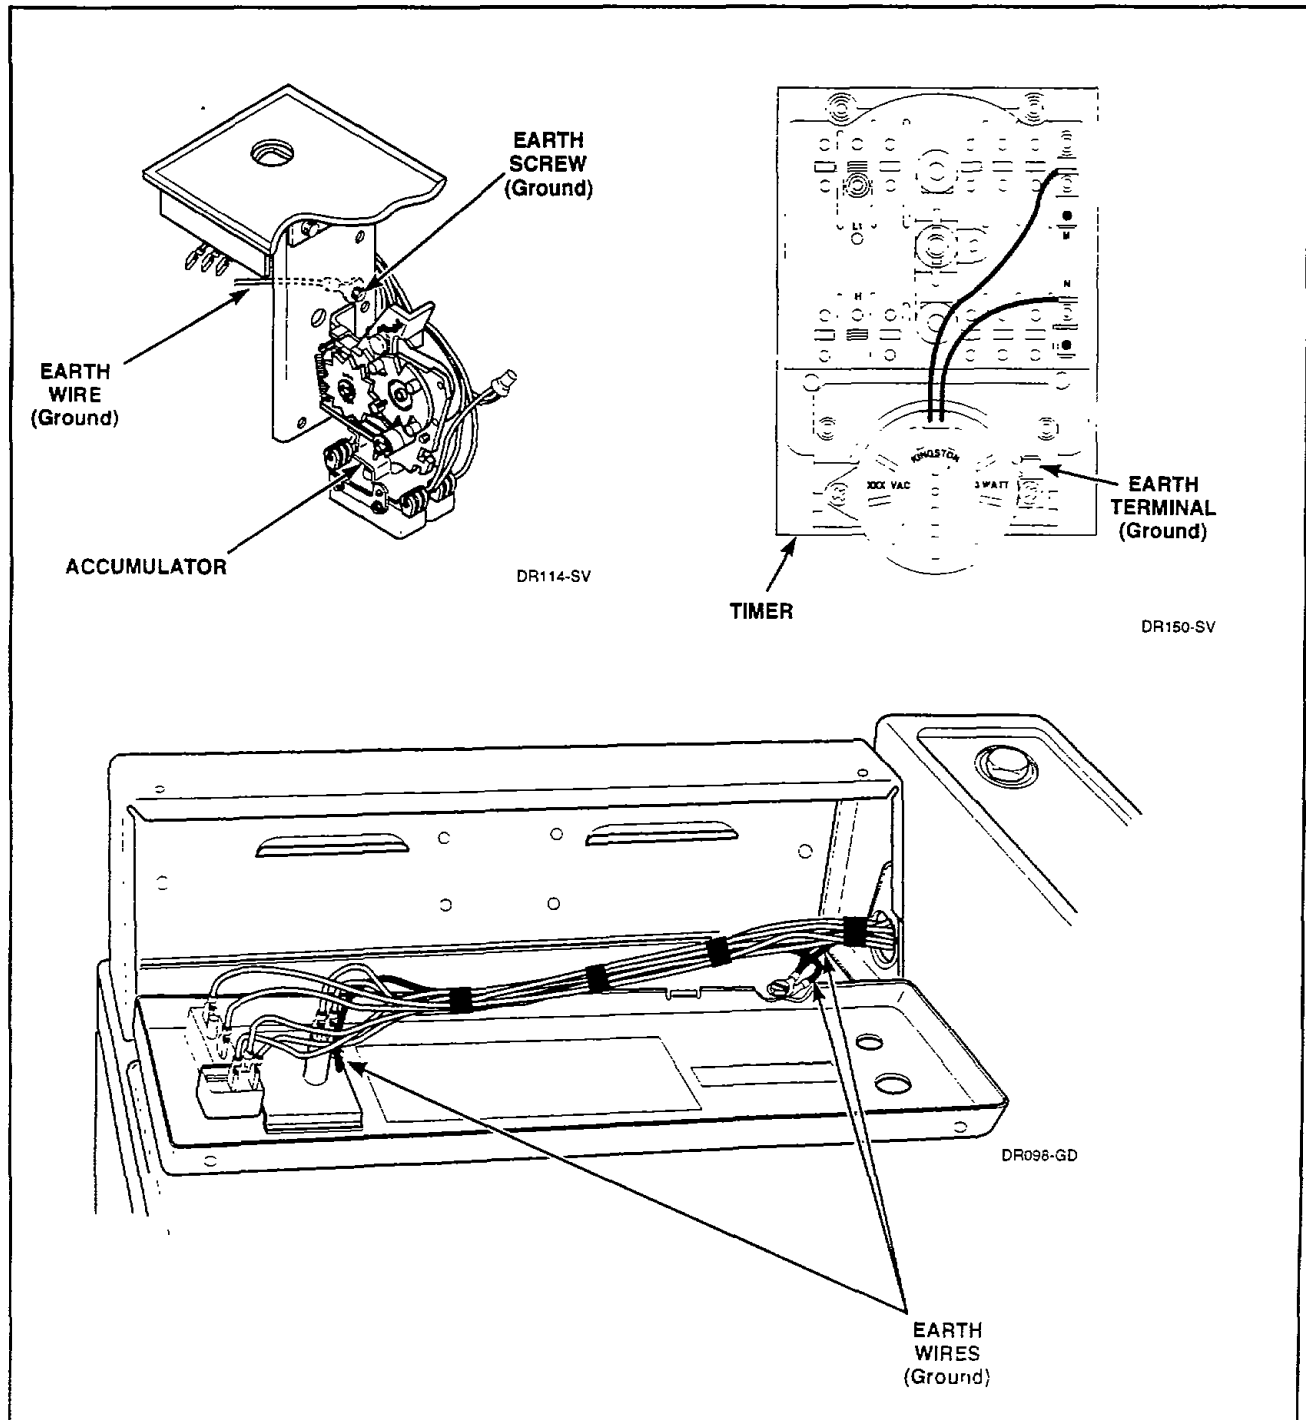

Figure 4
- Remove earth wire (ground) from earth terminal (ground) on timer, *Figure 4*.
- Disconnect all wires to TEMPERATURE SWITCH, PUSH-TO-START switch and INDICATOR LIGHT and remove ground clip and screw holding earth wire (ground) to cabinet top and control panel, *Figure 4*. (Refer to appropriate wiring diagram when reconnecting wires.)